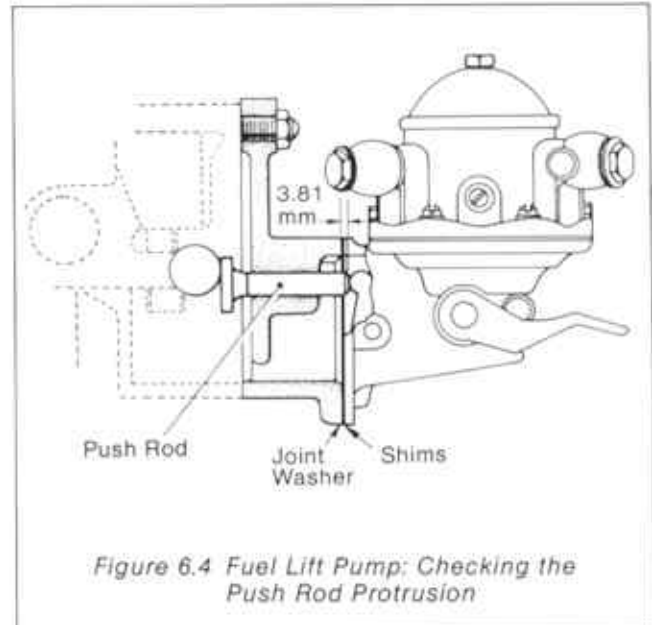

Figure 6.4 Fuel Lift Pump: Checking the Push Rod Protrusion
- (1) Turn the engine until the push rod is in the maximum lift position.
- (2) Fit the fuel lift pump joint.
- (3) With reference to Figure 6.4 measure the maximum protrusion of the push rod, this should be 3.81 mm (0.15 in.). If necessary adjust the protrusion by means of shims fitted under the mounting flange of the pump to achieve this figure. Shims (0.015 in. thick) can be obtained from Petters Limited.